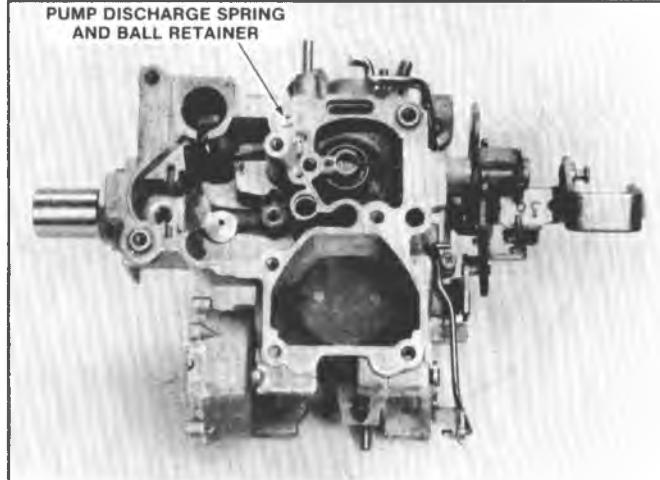

Fig. 6C2-38--Pump Discharge Spring and Ball
2. Holding fast idle cam so that cam steps face fast idle screw on throttle lever when properly installed, install throttle body making certain throttle body is properly located over dowels on float bowl; then install (4) throttle body to bowl screws and lockwashers and tighten securely (Fig. 6C2-33).